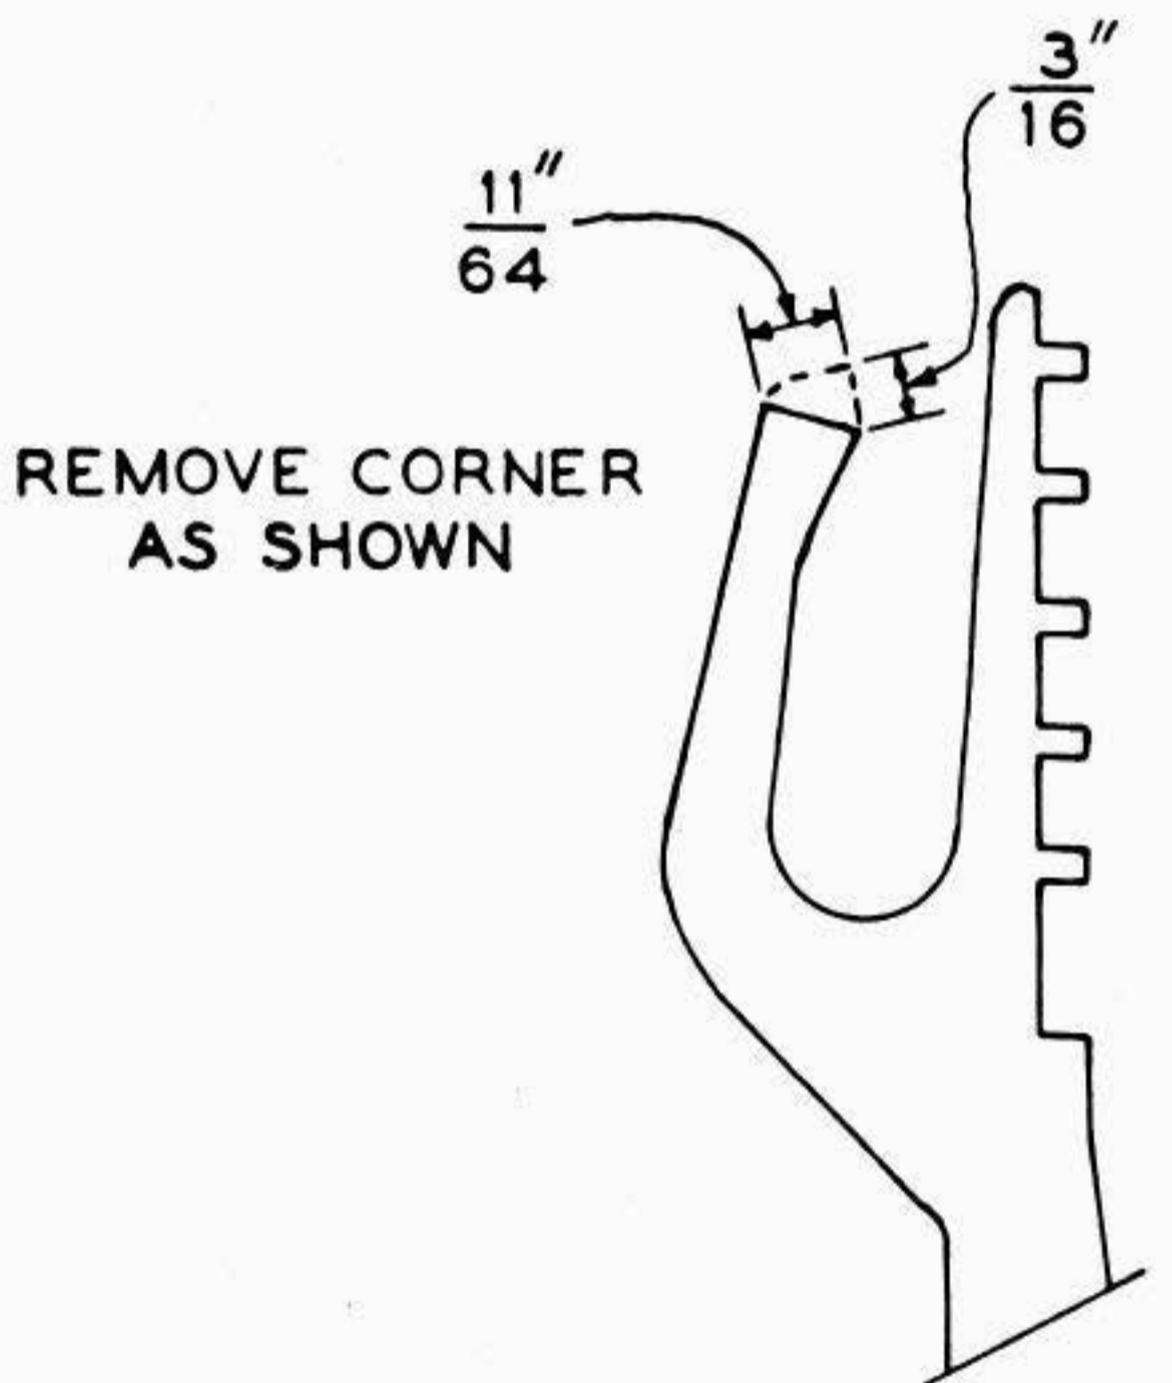

FIG. 1
2.01 The function lever on which printing or spacing or both shall occur should be modified by removing a triangular section from the tip of the curved arm which normally engages the blocking bail as shown in Figure 1. Due to the hardness of the material, this modification should be made with a fairly fine grinding wheel and care should be taken not to overheat the material. Remove all sharp edges resulting from the grinding operation.